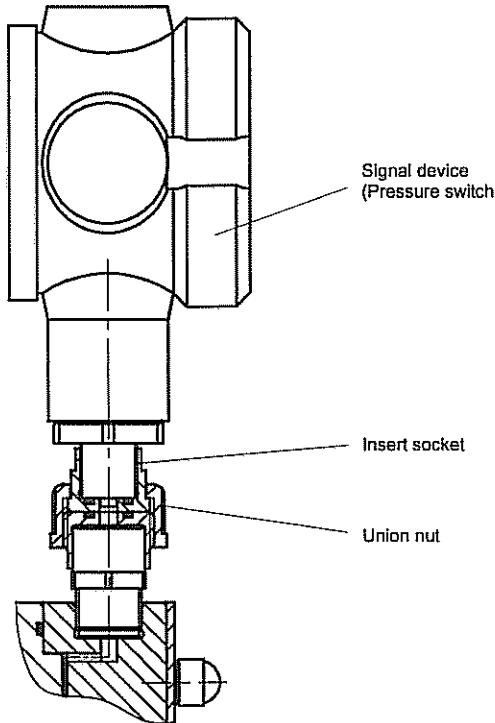

Fig. 43
- Release union nut and remove the signal device (see Fig.43/44).